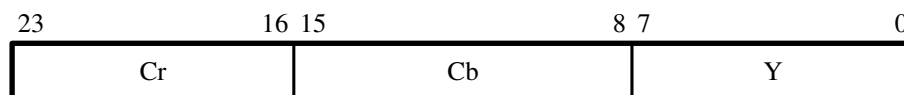

Figure 19. YCrCb 4:4:4 Color Space.
- YCrCb 4:4:4 — This format is the normal YCrCb with all components as shown in Figure 19. This mode is defined as 8 bits per color and three color planes.